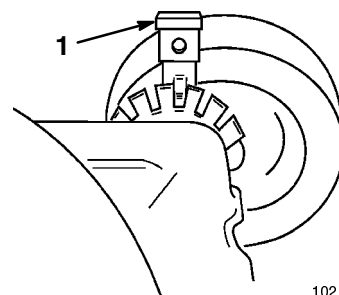

Figure 15
1. Pull the wheel height adjustment lever toward the wheel and move it to the desired position (Fig. 15).